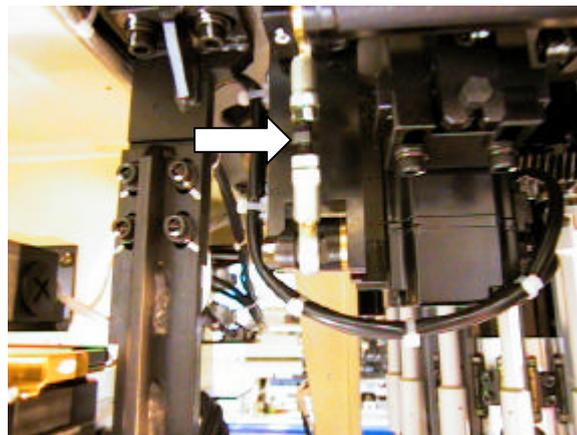

Figure 6
7. With the cam at 200 degrees, set the 3rd station stroke within a range of 0.30 to 0.35mm, (0.31mm is the ideal value). Set the stroke by turning the stroke-adjusting rod, (located at the rear of the machine next to the PQ motor). (See figure 6 below)
8. When setting the stroke, ensure that the adjustment nut (at the tip of the arrow in Fig.6), is in the center of the stroke-adjusting rod.